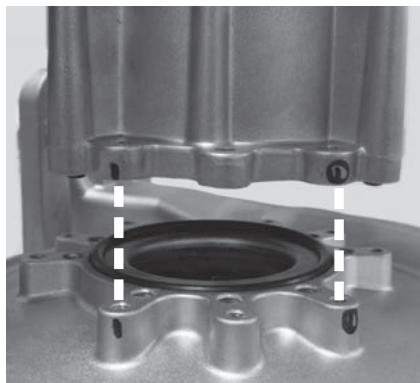

Figure 102 - Proper venturi and fan alignment
- 17** Install the new venturi to the fan. Reference the orientation mark on the old venturi to position the new venturi properly as shown in Figure 102. Use the screw hole marks on the fan to properly install the four (4) screws previously removed in **Step 13**.